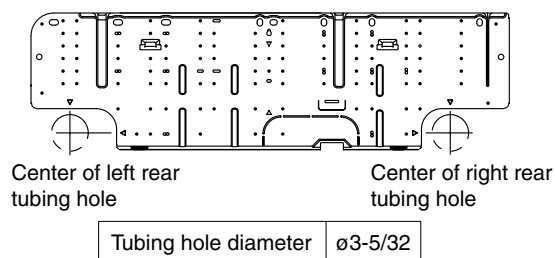

Fig. 3-135
- (1) Remove the rear panel from the indoor unit and place it on the wall at the location selected. Fix the rear panel and hook the unit onto it temporarily. Make sure the unit is horizontal using a carpenter's level or tape measure to measure down from the ceiling.
- (2) Determine which notch of the rear panel should be used. (Fig. 3-135)
- (3) Before drilling a hole, check that there are no studs or pipes behind the determined location. The above precautions are also applicable if tubing goes through the wall in any other location.